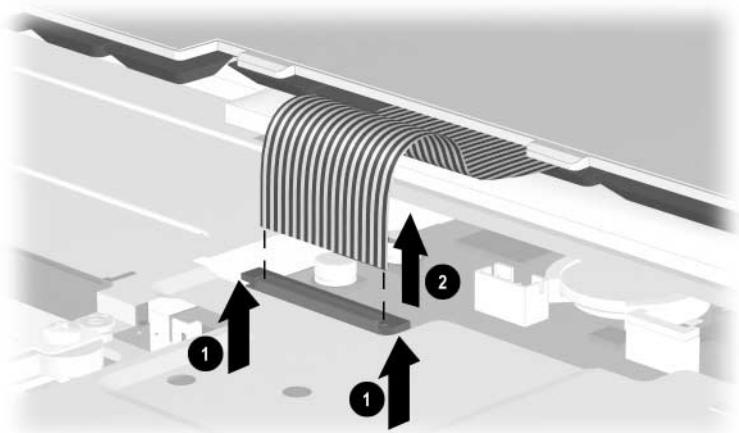

Figure 5-17. Removing the Keyboard
8. Release the ZIF connector ① to which the keyboard cable is connected and disconnect the keyboard cable ② from the system board (Figure 5-17).